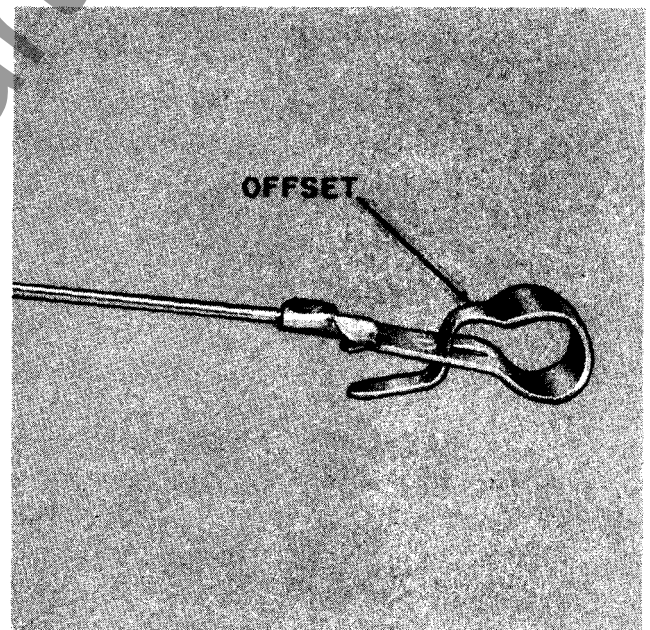

Fig. 2. Reshaped Terminal Clip
2. Reshape terminal clips "B" as shown in Fig. 2. For best results shape the offset (where clip threads through itself) so that the clip will fit snugly around the tube cap.